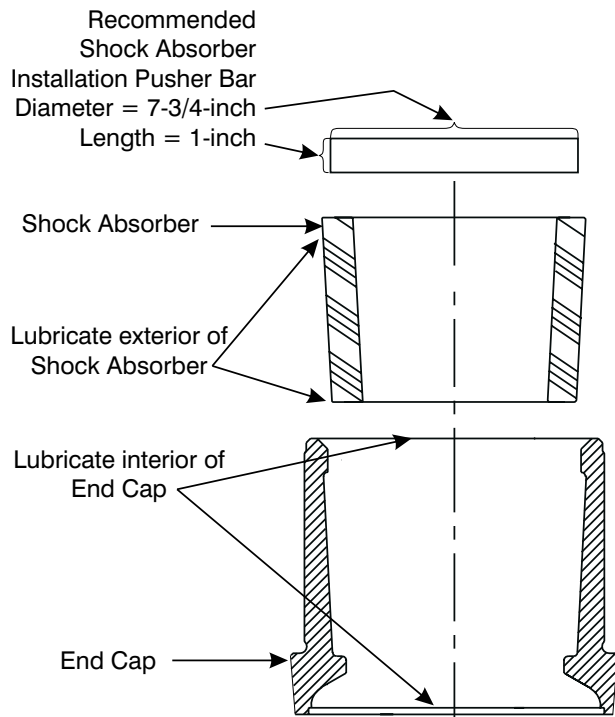

Figure 9-1. End Cap and Shock Absorber in Press
1. Obtain a push bar to press the Shock Absorber (11) into the End Cap (10). A push bar approximately xx-inches long and 7-3/4-inches in diameter is recommended as shown in Figure 9-1.
2. Lubricate the push bar lightly. It must press into the End Cap (10) but must not slide inside the Shock Absorber.
3. Lubricate the O.D. of the Shock Absorber (11) and the I.D. of End Cap (10) as shown in Figure 9-1.
4. Position the End Cap (10) in an arbor press with the threaded end up as shown in Figure 9-1.